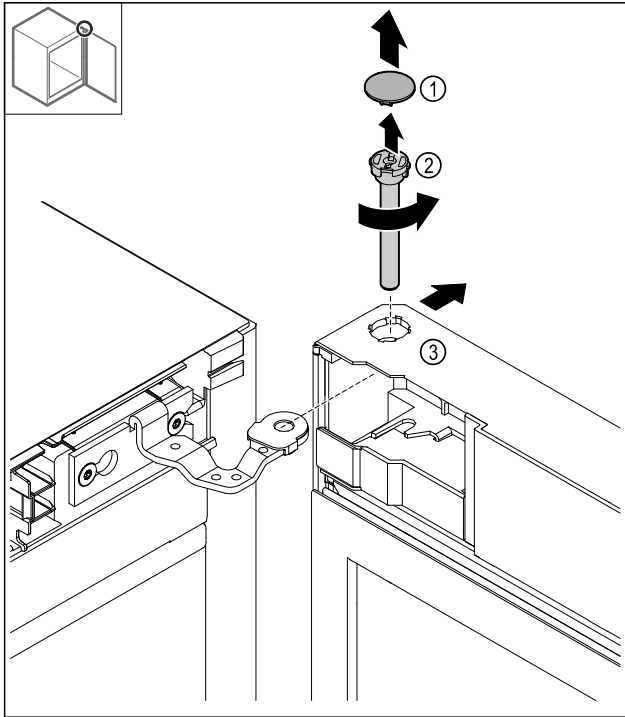

Fig. 15
- Removing the cover Fig. 15 (1).
- Loosen the bolt Fig. 15 (2) anti-clockwise and pull it out.
- Tilt the door Fig. 15 (3) slightly.